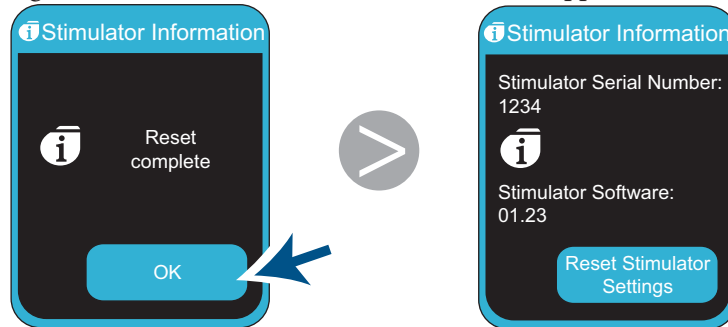

Figure 30. Returning to the Stimulator Information screen
5. Tap **OK** (Figure 30). The Stimulator Information screen appears.